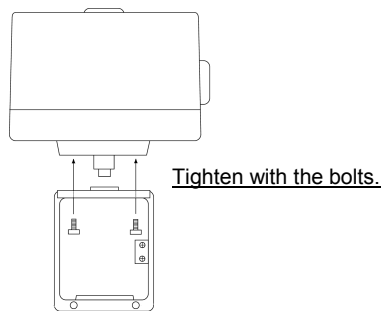

Figure 3. Attaching the actuator to the yoke
1. The bolts are hexagon socket head cap screws (M10 × 25). Attach the yoke to the actuator using a hexagonal wrench. The actuator can be mounted facing every 90° direction. (See Fig. 3.)